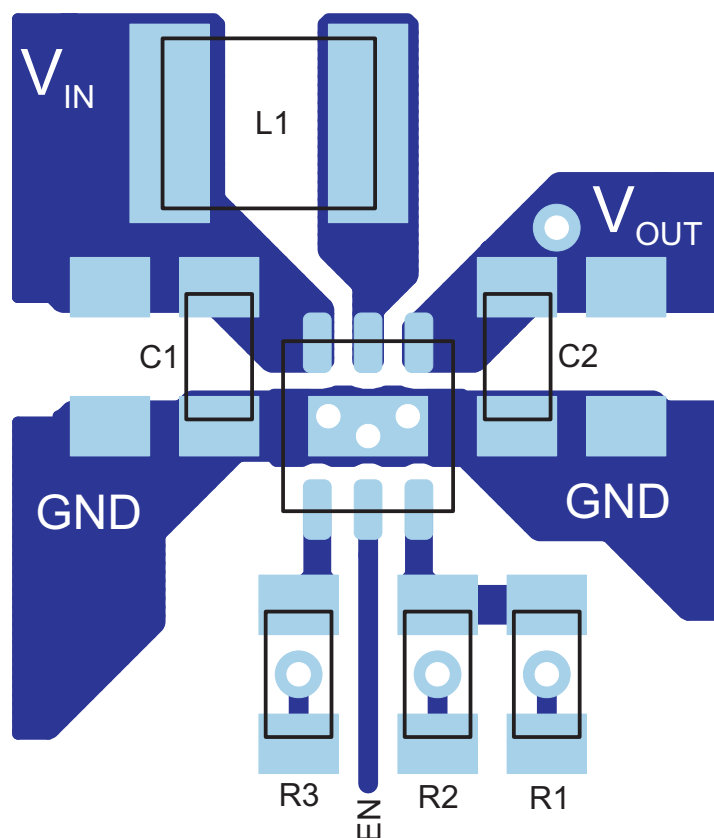

Figure 25. PCB Layout Suggestion
- The feedback divider should be placed as close as possible to the control ground connection. To lay out the control ground, short traces are recommended as well, separated from the power ground traces. This avoids ground shift problems, which can occur due to superimposition of power ground current and control ground current. See Figure 25 for the recommended layout.